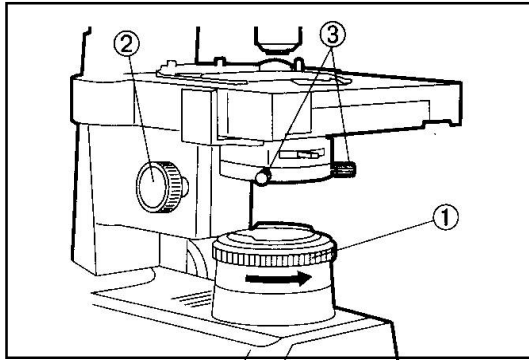

Fig. 1
1. With the 10X objective engaged and the specimen brought into focus, turn the field iris diaphragm ring ① counterclockwise to stop down the diaphragm to near its minimum size.
2. Turn the condenser height adjustment knob ② to bring the field iris diaphragm image into focus.
3. Rotate the two auxiliary lens (field expanding lens) centering knobs ③ to adjust so that the field iris diaphragm image is centered in the eyepiece field of view. (Figs. 1 & 2)